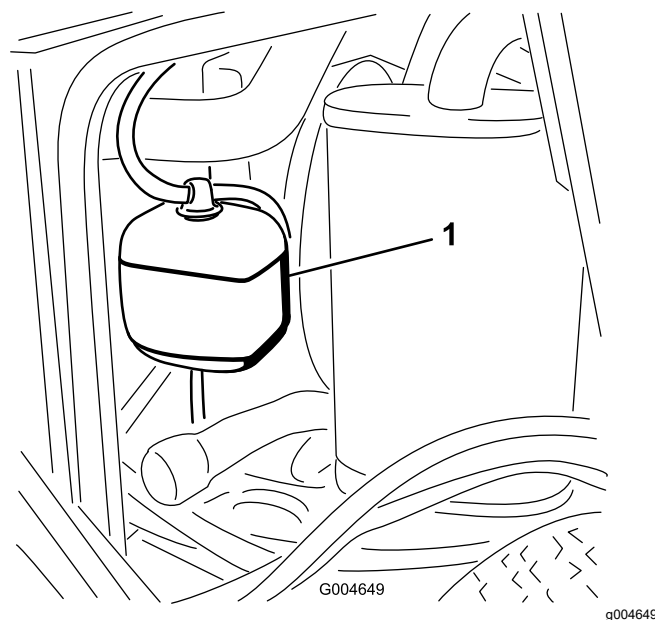

Figure 42
1. Check the level of the coolant in the expansion tank (Figure 42).